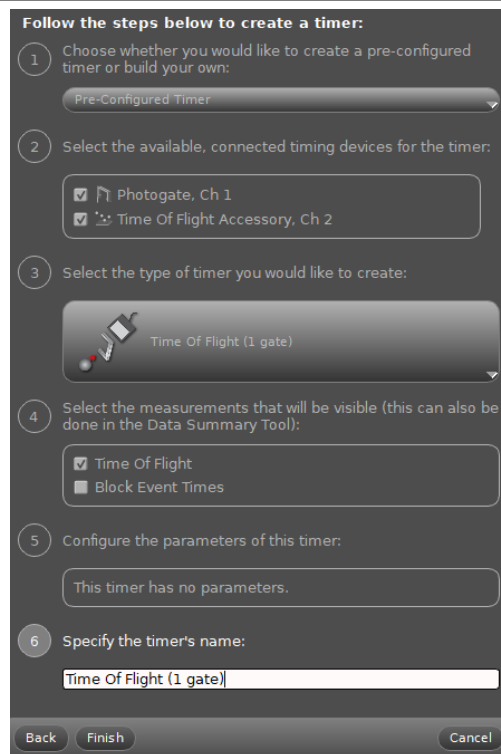

Figure 8. The proper timer configuration for performing experiments with the Discover Free Fall System in Capstone.
- Select **Timer Setup** from the **Tools** palette, then select **Pre-Configured Timer** and click **Next**. (See Figure 8 for this and the following few steps.)